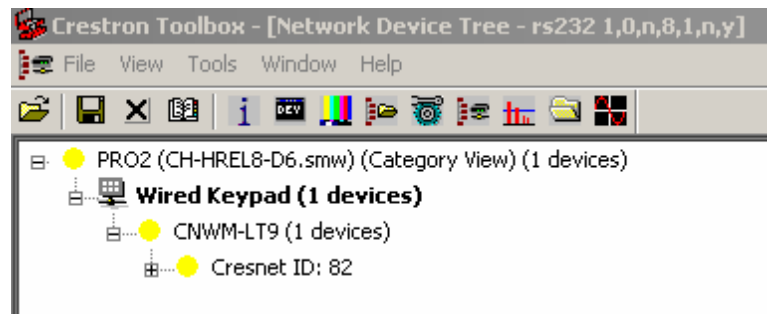

Figure 6: Network Device Tree (Toolbox)
4. Click **Tools | Network Device Tree**, or click the network device tree icon to display the “Network Device Tree” window (Figure 6). Use the Address Book icon or the drop-down list at the lower left of the window to select the appropriate address for the devices in the system. Communications are confirmed when the network devices are displayed.